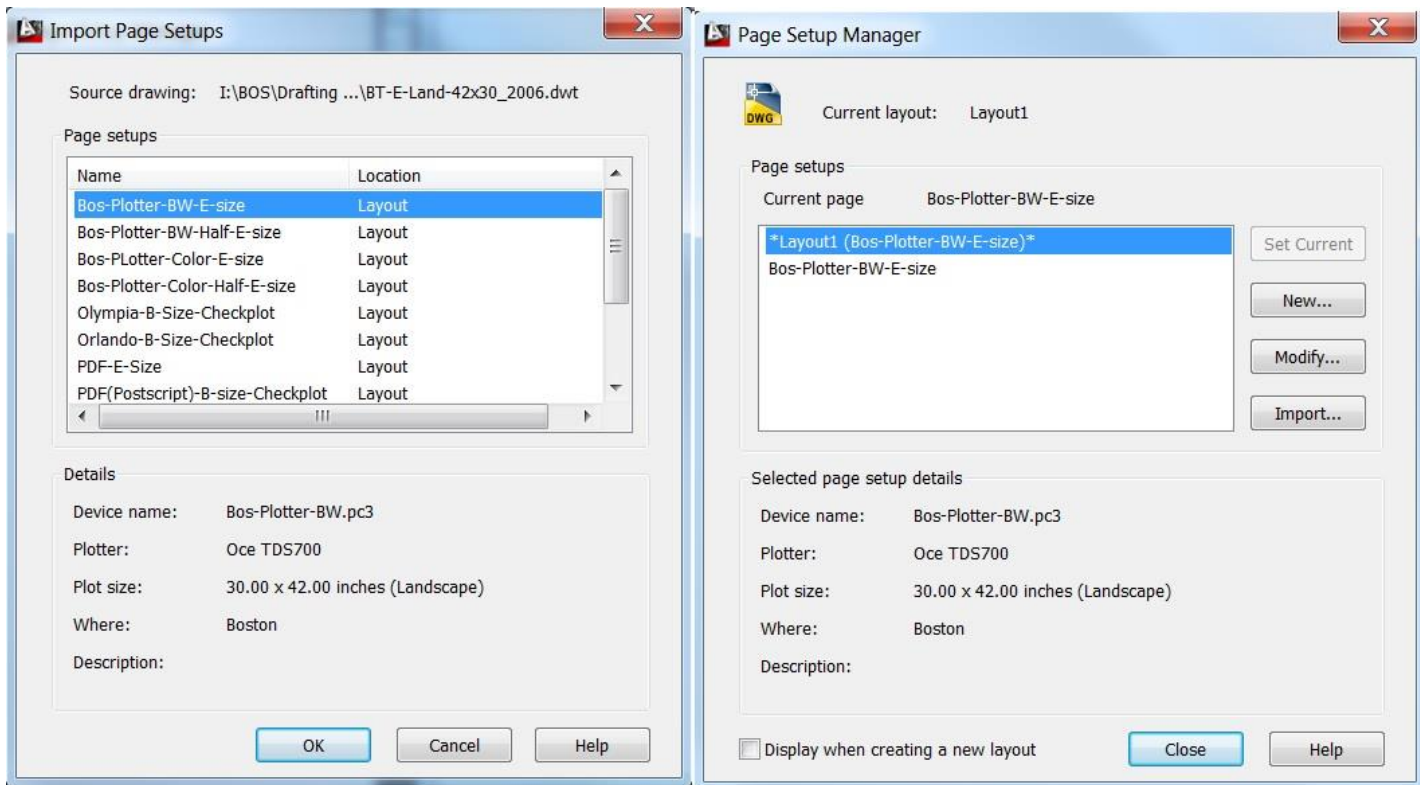

Figure 8a/b- Import Page Setups & Page Setup Manager
4. The "Import Page Setups" dialog box will pop up (Figure 8a). Select the style you'd like to use and click **OK**.